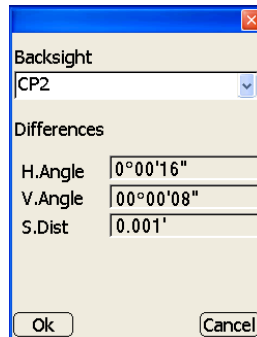

Figure 5-7. Check Backsight Measurements
9. On the **Backsight** dialog box, check that the backsight point is correct and all differences are within acceptable tolerances, then press **Ok** (Figure 5-7).